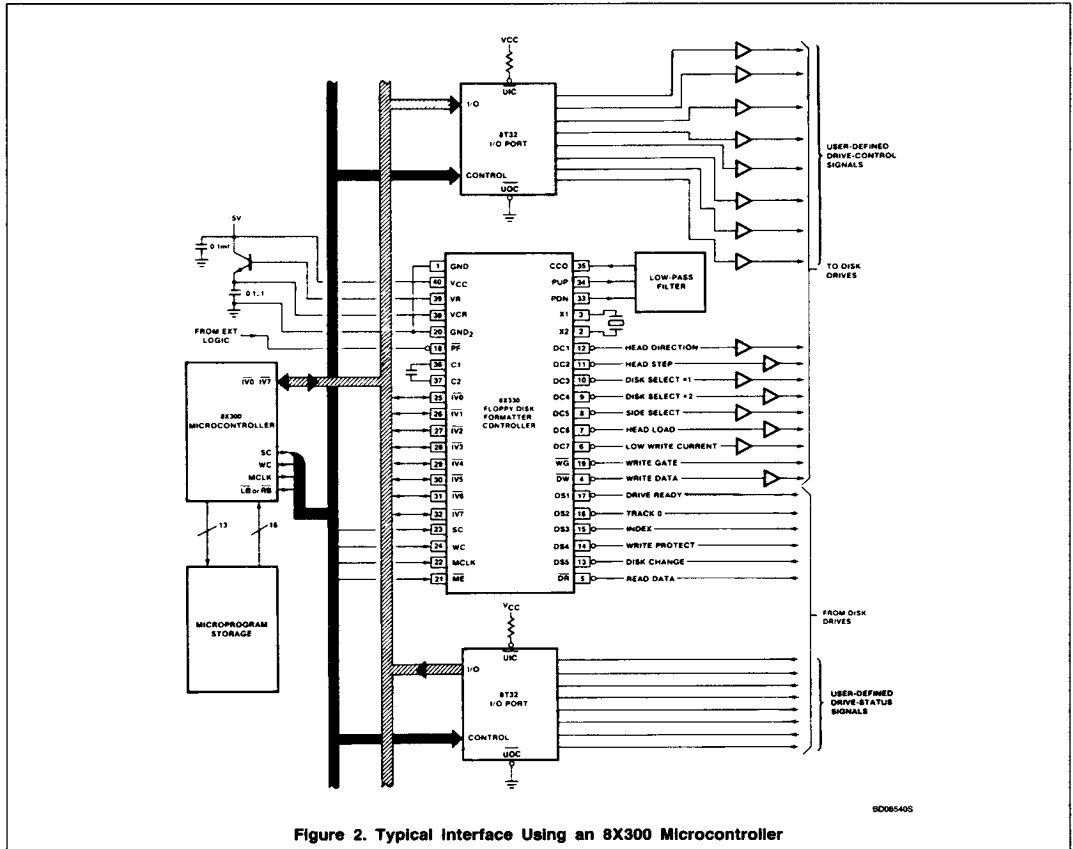
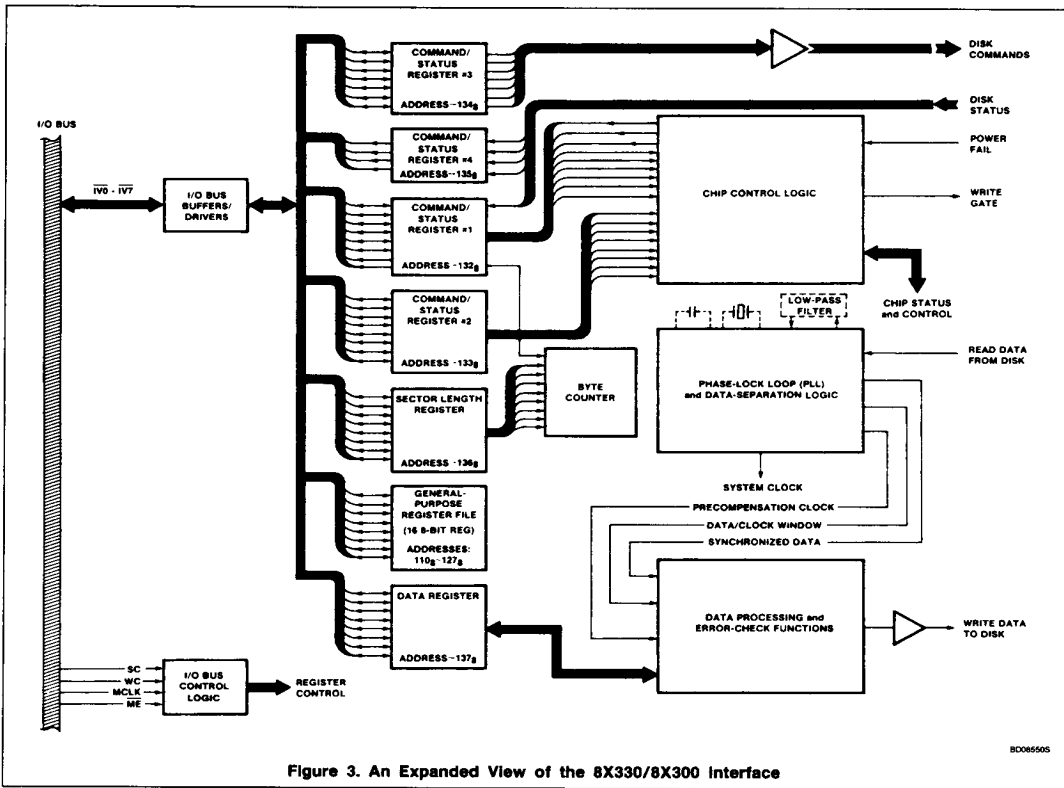

Figure 2. Typical Interface Using an 8X300 Microcontroller
Figure 3. An Expanded View of the 8X330/8X300 Interface
A typical floppy disk controller using an 8X300 microcontroller and the 8X330 is shown in Figure 2. The non-shaded portion of this particular configuration can service the command, status, and input/output requirements of two double-sided disk drives and, under software supervision, the system can read/write single-density (FM) or double-density (MFM/M²FM) codes. Interface requirements consist of the 8X300 microcontroller and the two disk drives. All 8X330 control and data registers directly linked to the microprocessor interface (Figure 1) are addressable and appear to the 8X300 as simple I/O ports;
The disk-drive interface consists of seven output control lines (DC1-DC7), five input status lines (DS1-DS5), a write gate (\overline{WG}), a data-write output (\overline{DW}), and a data-read input (\overline{DR}). The twelve command/status lines are not dedicated; thus, the user can assign system functions to best suit a given application. As shown in Figure 2, all control lines except \overline{WG} are buffered to accommodate a reasonable distance between the controller and the disk media; the Write Gate, being a 40mA output, requires no buffering.
As shown by the shaded part of Figure 2, the control and status lines can be expanded with peripheral hardware — the 8T32 (in this example) being only one method of implementation. Using this particular technique, one I/O port is totally dedicated to output control, whereas, the other port is totally dedicated to input status. With additional hardware and supporting software, the disk-drive system can be expanded without limit; however, five or six drives is sufficient for most applications. By using the programmable features of the 8X330, the user can emphasize and prioritize those system parameters that are most important — economics, reliability and/or speed.
As shown in Figure 2, the interface between the 8X300 and 8X330 consists of twelve lines — IV0-IV7, SC, WC, MCLK, and ME; the Master Enable (ME) input (pin 21) is driven from either the \overline{LB} (Left Bank) or \overline{RB} (Right Bank) output of the 8X300. An expanded view of this interface is shown in Figure 3 and, as indicated, the 8X330 appears as a number of addressable registers (110₈-127₈ and 132₈-137₈) under input/output control of the 8X300. These registers are used for general-purpose storage, data-transfer operations, disk commands, disk status, and various